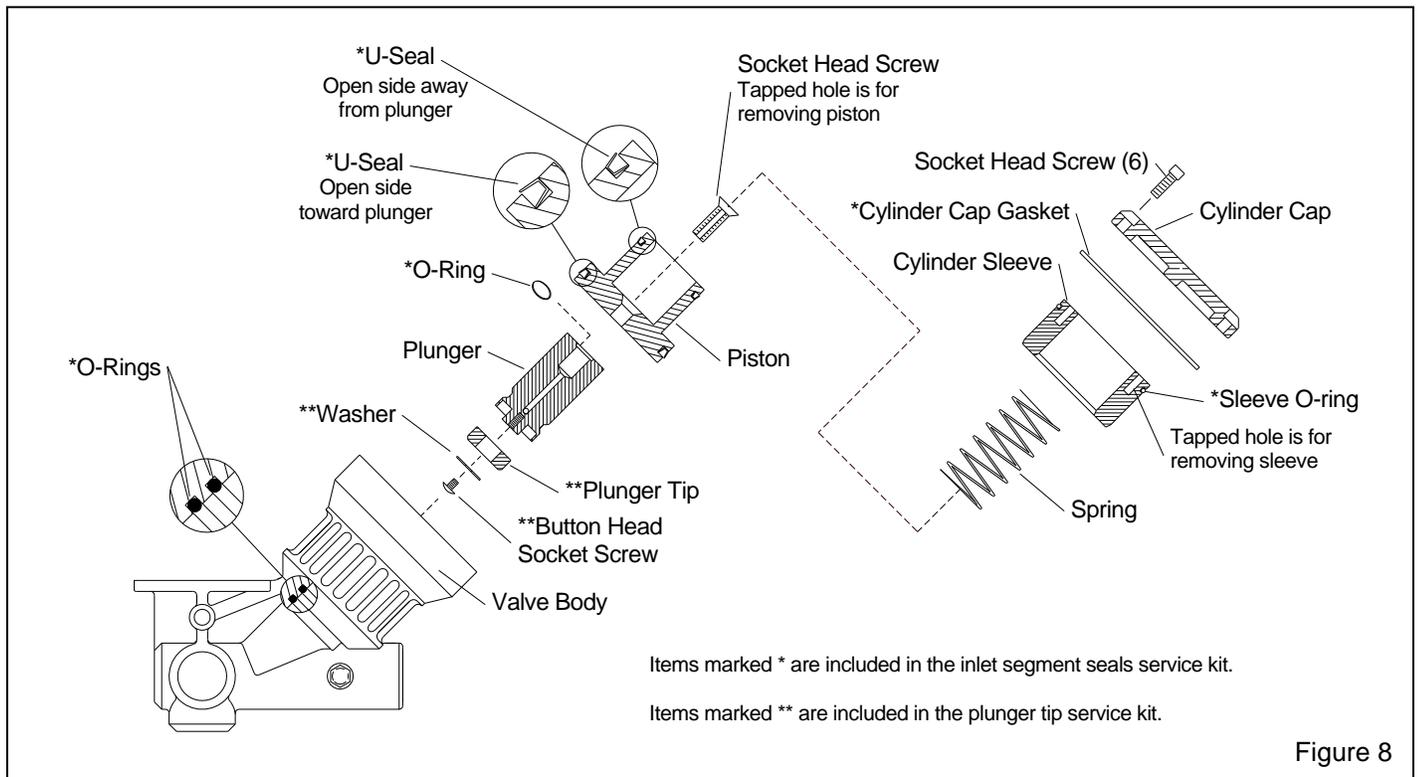

Figure 8
6.3 Millennium Inlet Valve, Ref. Figure 8
6.3.10 Place the u-seals into the grooves on the piston, the open side of the large seal faces the plunger, and the open side of the small one faces away from the plunger, as shown in Figure 8.